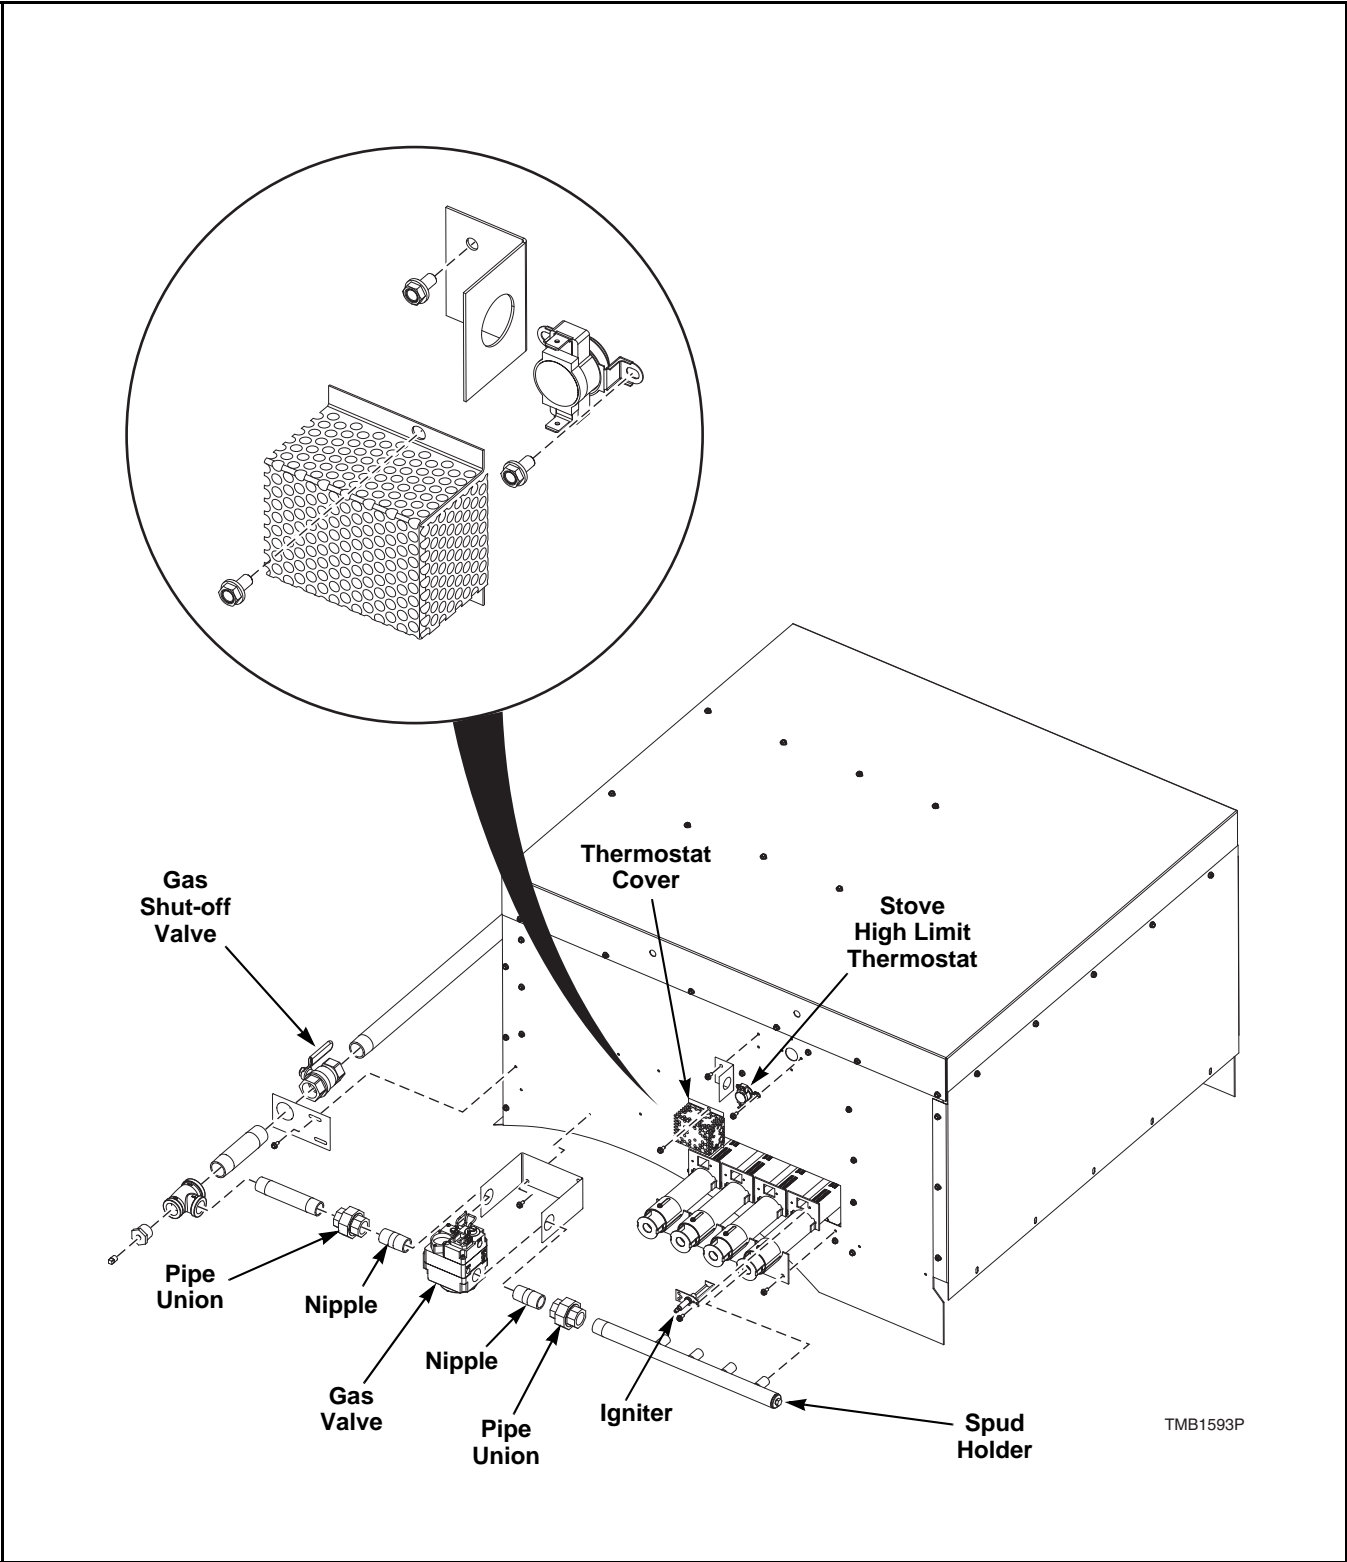

Figure 9
- c. Close gas shut-off valve. Refer to *Figure 9*.
Refer to *Figure 9*.
- d. Disconnect union nut attaching nipple to spudholder and remove spudholder. Refer to *Figure 9*.
- Remove thermostat cover. Refer to *Figure 9*.
- Remove the two thermostat attaching screws. Refer to *Figure 9*.